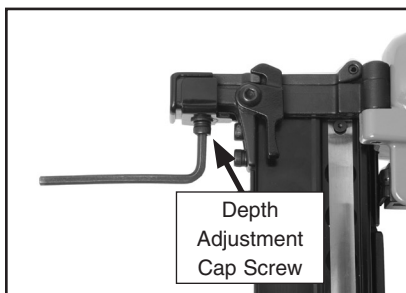

Figure 7. Depth adjustment cap screw.
- Use a 4mm hex wrench to loosen the depth adjustment cap screw on the contact arm as shown in **Figure 7**.